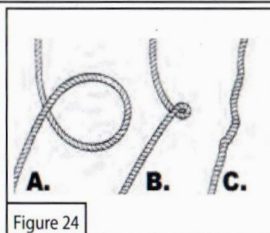

Figure 24
3. Ensure the cable is not kinked, or coiled up as shown in **Figure 24**. Uncoil as necessary or else **damage will occur.**